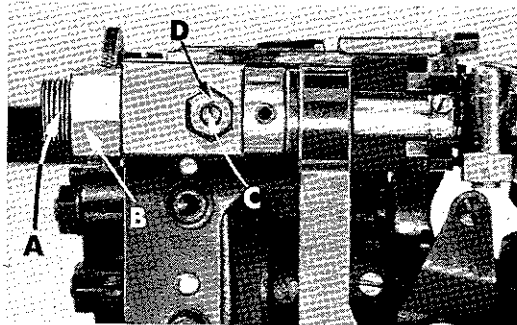

Fig. 19
Lower knife is spring pressed against upper knife. Pressure can be increased or decreased by adjusting stud (A, Fig. 19) which is locked by nut (B). Lower knife may be secured in any position by tightening screw (C) and locking nut (D) against support bracket.